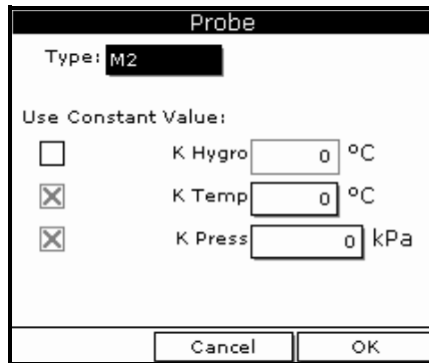

Figure 3: Probe Window
3. Use the arrow key to scroll to Probe and press [ENTER]. The screen appears similar to Figure 3.